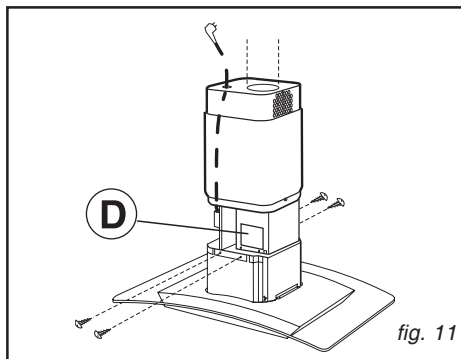

fig. 11
- Secure the hood to the telescopic structure by means of 4 screws (provided) - Fig.11.
- Through the openings D (Fig.11) secure the air exhaust pipe to the flange (H).